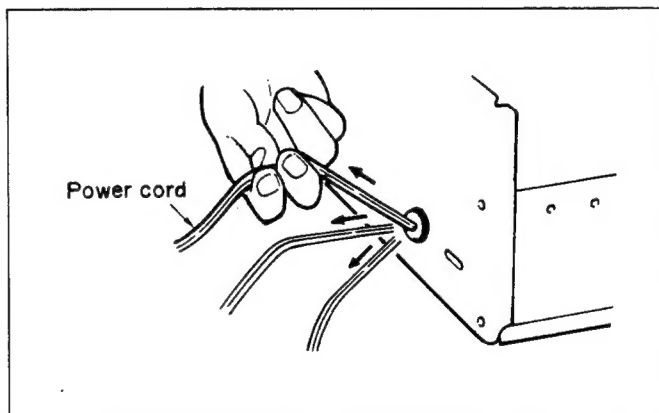

Fig. 2
8. When a power cord has been replaced, check that 10 - 15 kg of force in any direction will not loosen it. (Fig. 2)